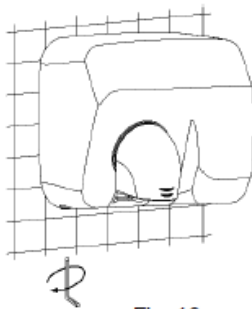

Fig. 10
- Unscrew the screws in a counter-clockwise (CCW) direction using the supplied special tool (see figure 10).